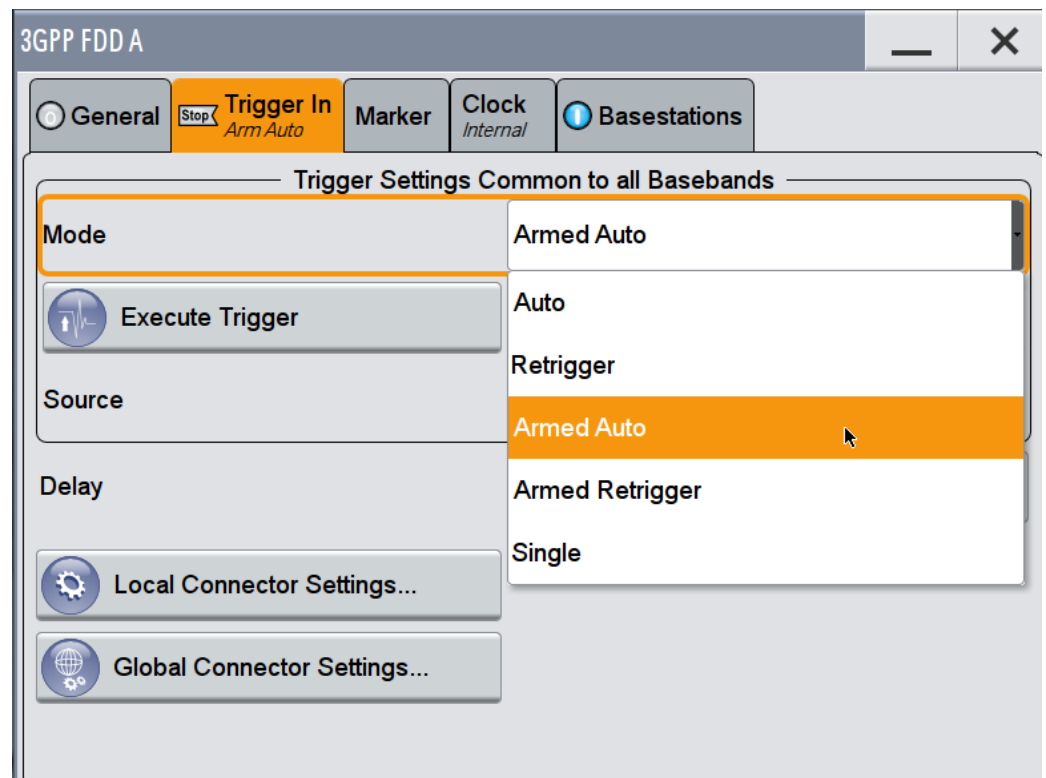

Fig. 3-11: SMW: select the trigger mode. Select armed auto in case of external trigger
7. Select the trigger **Mode** under “Trigger In” section. (Fig. 3-11)